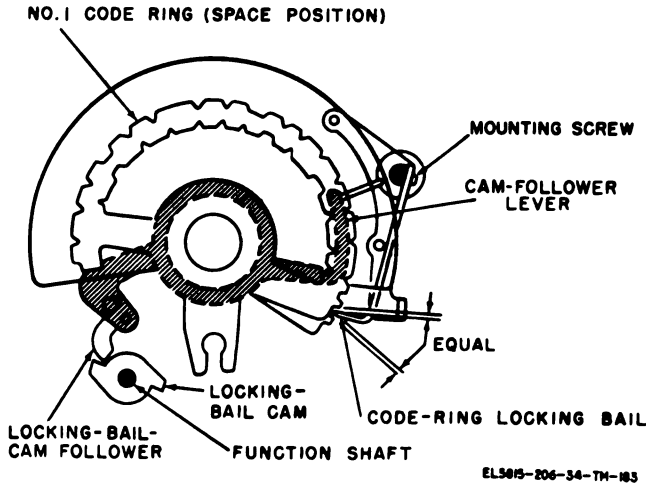

Figure 3-111. Code-ring locking-bail adjustment (TT-4B/TG, TT-4C/TG, TT-335/TG, TT-537/G, TT-698A/TG, and TT-698B/TG).
(1) Set the function shaft to the stopped position and place the No. 1 code ring so that its projection is aligned with the locking edge of the code-ring locking bail. Check requirement (*a* (1) above) with a feeler gage.
(2) Insert a flat feeler gage between the collar of the locking-bail lever and the code-bar cage plate to determine the end play.
**c. Adjustment.** Loosen the setscrews in the collar of the locking-bail lever. Rotate the locking-bail shaft until the requirement in *a*(1) above is met. Position the locking-bail lever to obtain the requirement in *a* (2) above. Tighten the setscrews in the collar of the locking-bail lever and recheck both clearance requirements.
**3-144. Code-Ring Locking-Bail Adjustment (TT-4B/ TG, TT-4C/ TG, TT-335/ TG, TT-537/ G, TT-698A/ TG, and TT-698B/ TG) (fig. 3-111)**